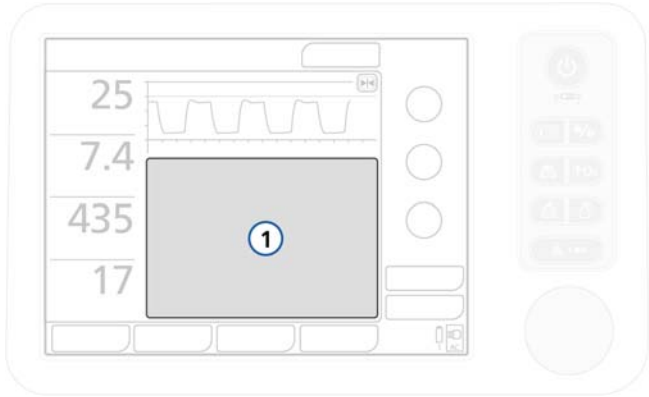

Figure 6-4. Display the graphics window (1)
1. Touch anywhere in the graphic area of the display to open the graphics window. See **(1)** in Figure 6-4.